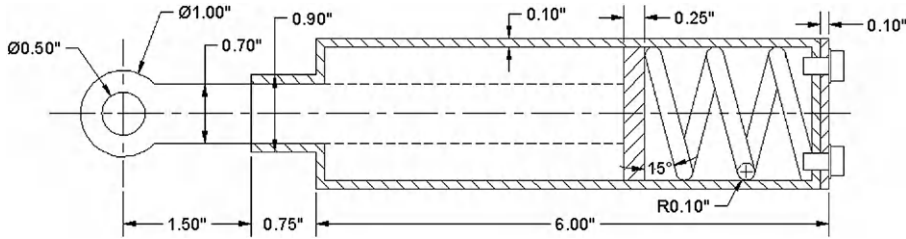
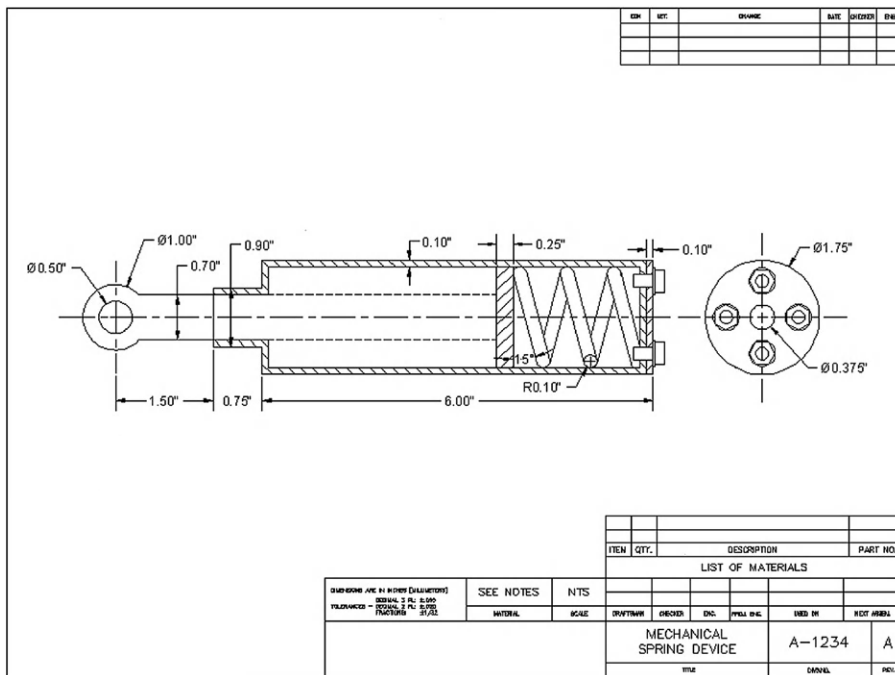

FIGURE 8.32
FIGURE 8.33
A full-page view of the completed device is found toward the end of the chapter (Figure 8.33). Take a good look at it and decide on a strategy to draw it. Over the course of the next few pages, you will see a step-by-step process to actually do it. Follow the steps carefully, and do not worry about the thick border; that is a polyline, to be covered in Level 2. The title block is otherwise just a simple collection of lines and text.
Step 12. Finally, add dimensions (Figure 8.32) and a title block (Figure 8.33) by use of rectangles. The title block and its contents are typical of a mechanical engineering drawing.